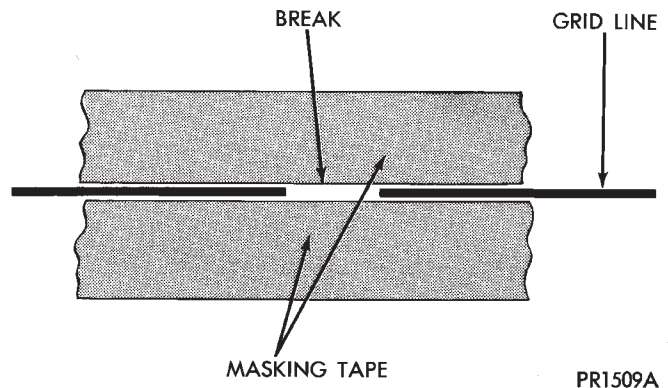

Fig. 3 Grid Line Repair - Typical
(1) Mask the repair area on the inside of the rear glass so that the conductive epoxy can be applied neatly. Extend the epoxy application onto the rear glass heating grid bus bar or grid line on each side of the break (Fig. 3).